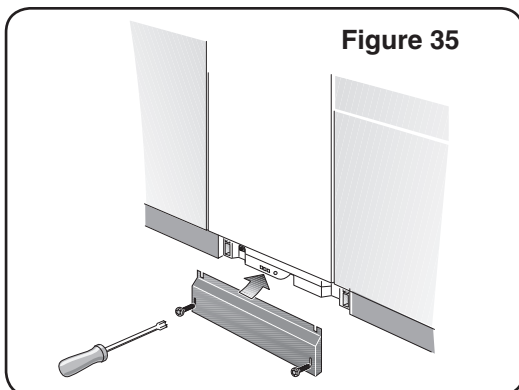

Figure 35
Step 2 - Use the toe panel screws from the Dishwasher Installation Kit and a T-15 screwdriver to install the toe panel as shown in **Figure 35**.